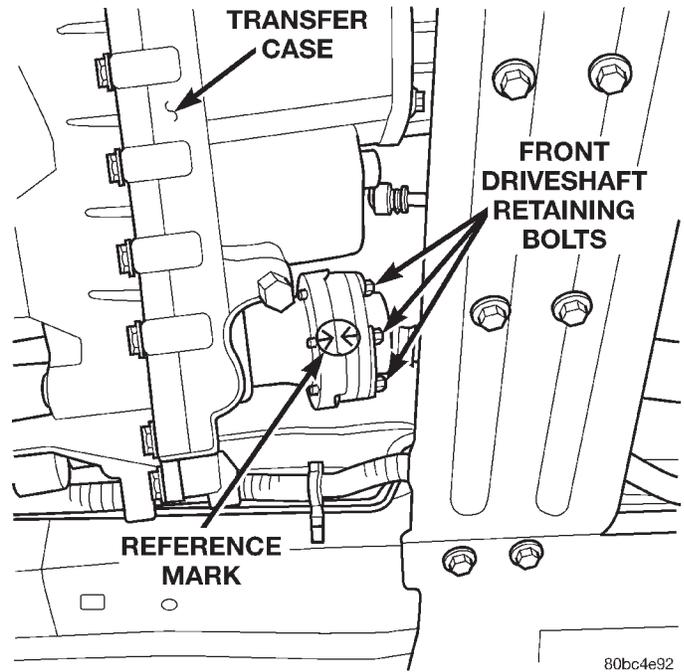

Fig. 8 Front Driveshaft Retaining Bolts
(5) Install the rear driveshaft. Torque the bolts to 32 N·m (24 ft. lbs.). Be certain to install the driveshaft in the same position as before removal.
(6) Install the front driveshaft. Torque the bolts to 32 N·m (24 ft. lbs.) (Fig. 8). Be certain to install the driveshaft in the same position as before removal.